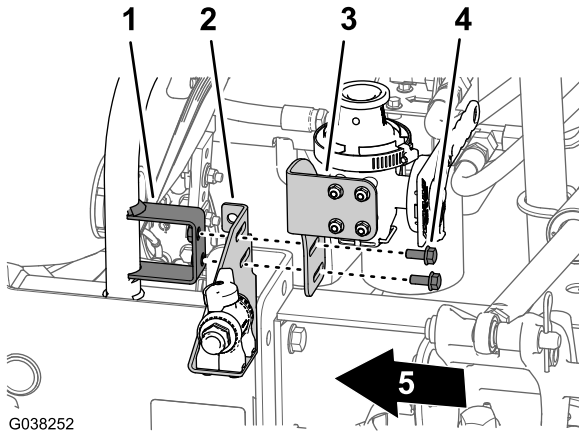

Figure 61
1. Align the slots in the agitation-throttle bracket and the slots in the eductor-shutoff bracket with the holes in the mount for the throttle-valve bracket (Figure 61).
2. Assemble the agitation-valve bracket and eductor-shutoff bracket to the mount for the throttle-valve bracket (Figure 61) with 2 flange-head bolts (5/16 x 3/4 inch).